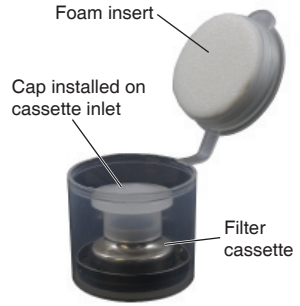

Figure 4. Casette in Transport Container
If not ready to sample immediately or if transporting loaded cassettes to a sampling location, place the filter cassette (with cap in place on the inlet) in the transport container. Ensure that the foam insert is in the container lid (Figure 4).
7. Remove the sampling media. Seal the sorbent tube ends with the caps provided. Place the filter cassette, with cap on, in the transport container; place the foam insert in the lid (Figure 4).